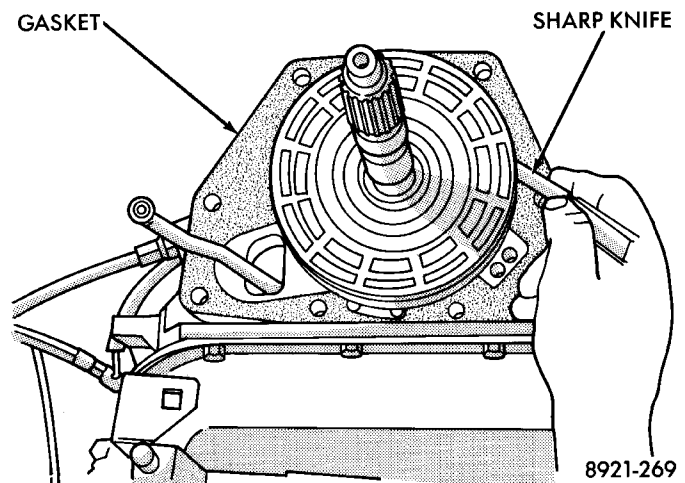

Fig. 35 Trimming Overdrive Case Gasket
(1) Be sure overdrive unit Alignment Tool 6227-2 is fully seated before moving unit. If tool is not seated and gear splines rotate out of alignment, overdrive unit will have to be disassembled in order to realign splines.
(2) If overdrive piston retainer was not removed during service and original case gasket is no longer reusable, prepare new gasket by trimming it.
(3) Cut out old case gasket around piston retainer with razor knife (Fig. 35).
(4) Use old gasket as template and trim new gasket to fit.
(5) Position new gasket over piston retainer and on transmission case. Use petroleum jelly to hold gasket in place if necessary. Do not use any type of sealer to secure gasket. Use petroleum jelly only.